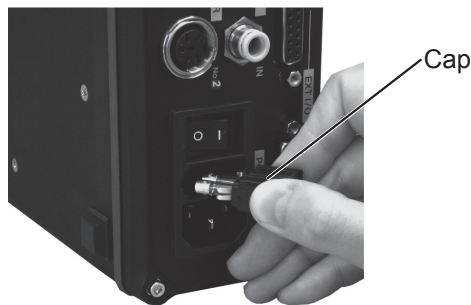
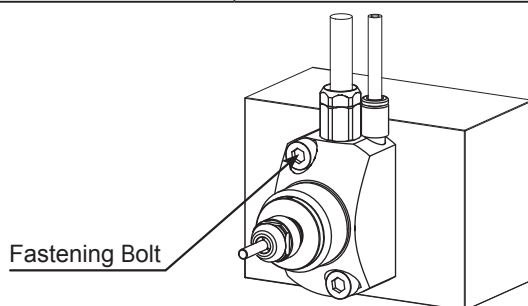

Fig. 7
Fig. 27
(1) Insert the motor spindle housing diameter section into the machine's tool plate bore.
(2) Secure the motor spindle through the counter-sunk holes (2 locations) on the flange face using bolts as shown in Motor Spindle Operation Manual Fig. 2, Fig. 4, Fig. 6 and Fig. 7. Refer to table 2 and Fig. 27.